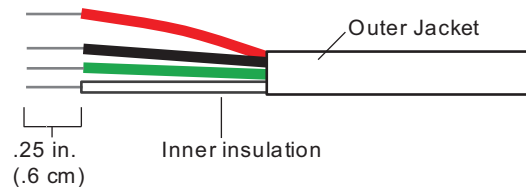

Fig. 5 — Installing ZS Sensor Cables
2. Partially cut, then bend and pull off the outer jacket of the Rnet cable(s). Do not nick the inner insulation. Strip about .25 in. (0.6 cm) of the inner insulation from each wire. See Fig. 5.
5. Strip about 0.25 inch (0.6 cm) insulation from the end of each wire. See Fig. 5.